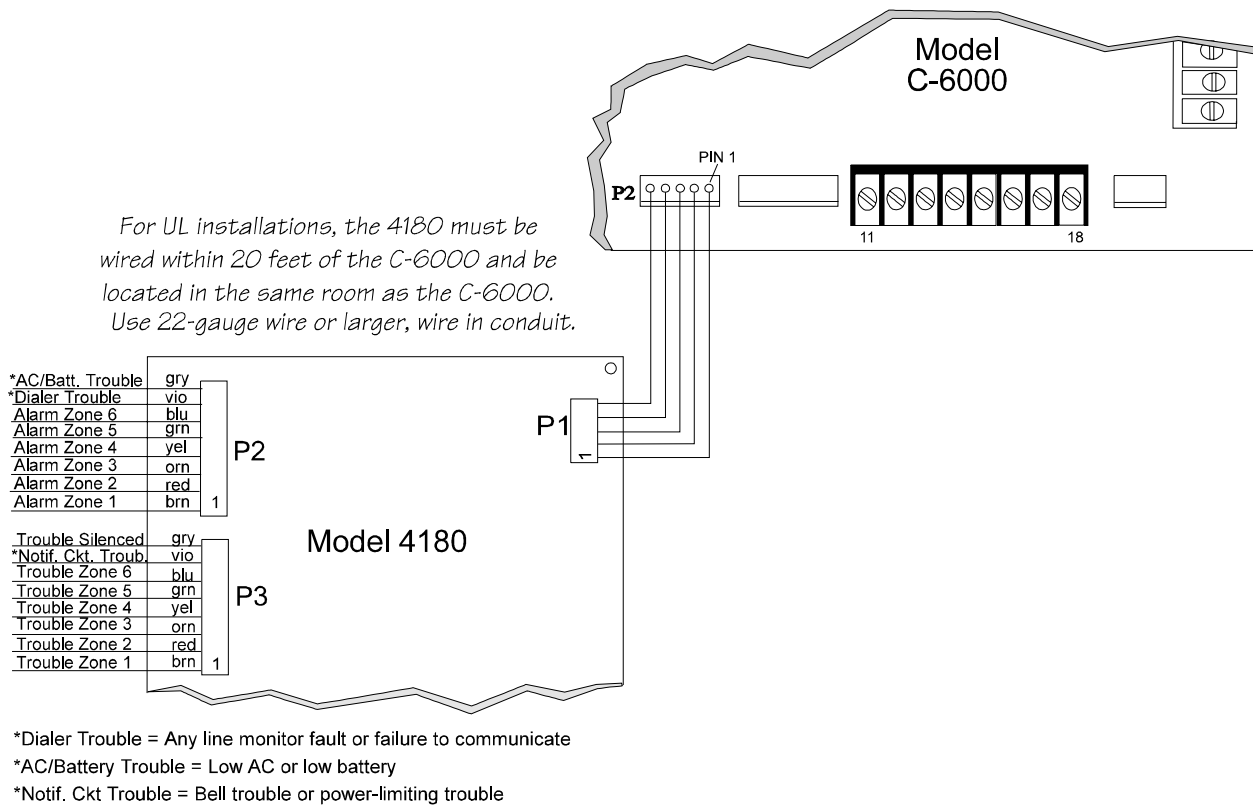

Figure 3-21. Model 4180 Connection
1. Connect the 4180 to the C-6000 as shown in Figure 3-21 (next page).